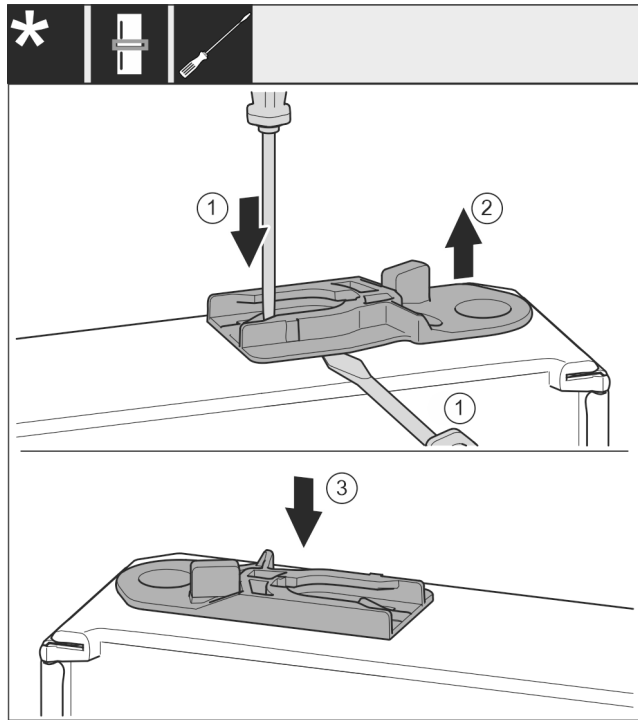

Fig. 53 *
- Pull out the guide bush: Press the tab Fig. 53 (1) with a flat-blade screwdriver and at the same time move the flat-blade screwdriver under the guide bush Fig. 53 (2).*
- Insert the guide bush Fig. 53 (3) supplied on the other side of the housing.*